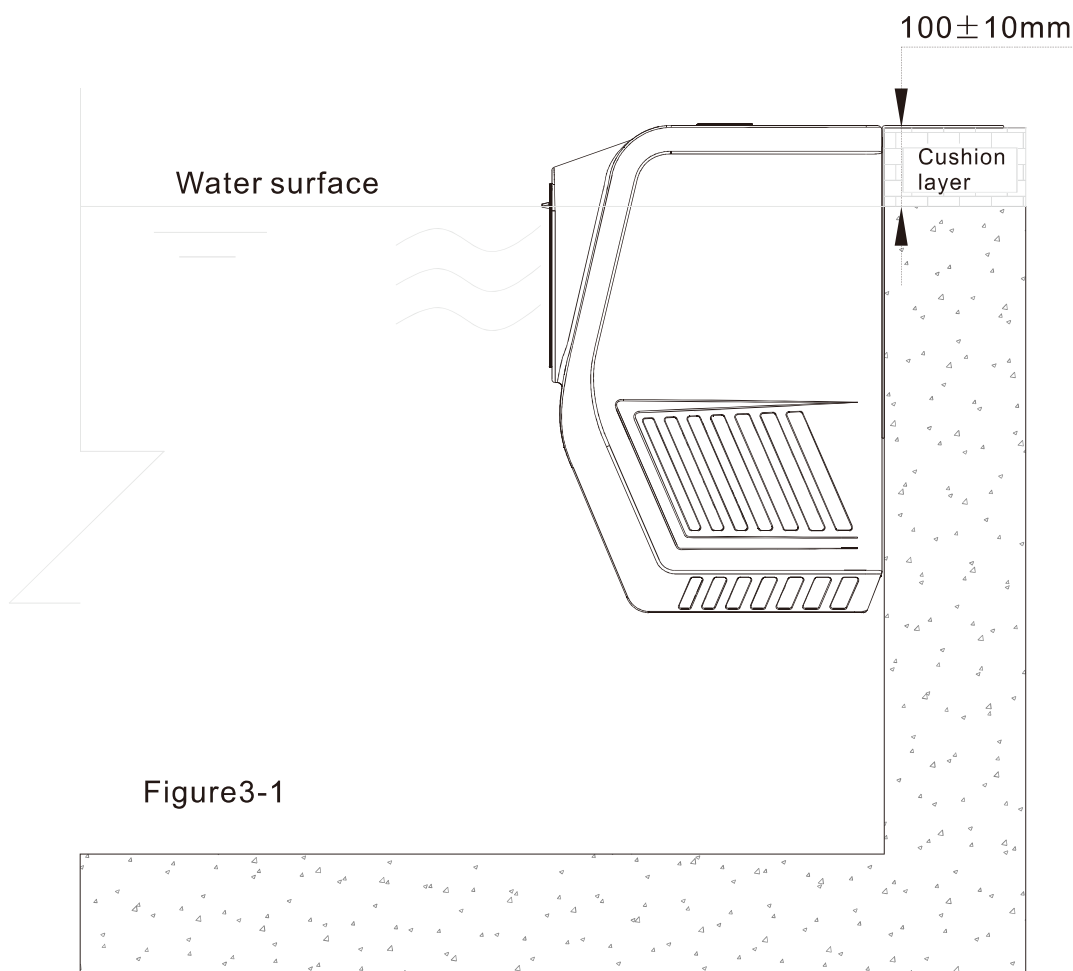

Figure3-1
1. As shown in Figure 3-1, the installation method of the units can be referred to the previous steps when the MPU08 units uses an L-shaped bracket and which is installed in a overflow pool. Just make sure that the final installation height of the units is 100mm higher than the pool surface (you can use a cushion layer to increase the height as shown in the figure below) to ensure that the pool water surface is at the units' optimal water level mark to obtain the best swimming experience.